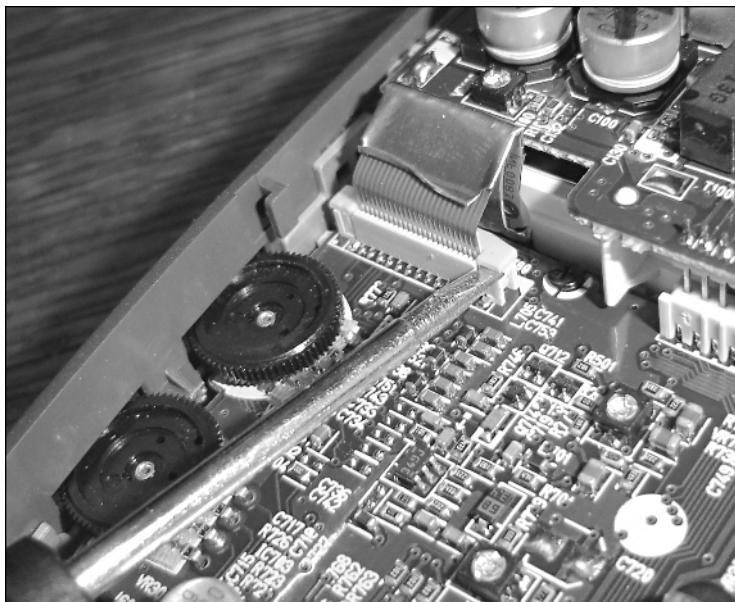

FIGURE 4-6: Releasing the ribbon cable.
3. Use a small flat-head screwdriver, your tweezers, or the edge of your knife to lift up the brackets holding the ribbon cable to the screen (Figure 4-6). Work one side up a bit, then the other, back and forth, until it's up. Grasp the sides of the cable with your tweezers, and gently pull it out.